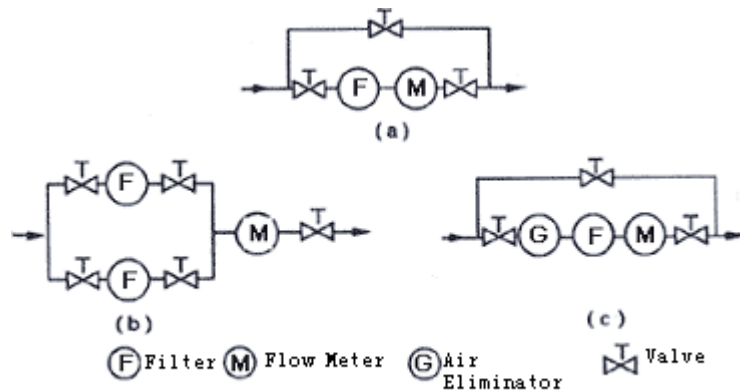

Fig. 4
- a) The Flow Meter pipeline arrangement is as shown in Fig.4
For operation and maintenance reason, to ensure flow in the pipeline will not be interrupted during maintenance, by-pass pipe is needed, as shown on Fig.4 (a); if there is much impurity in the fluid, the filter needs frequent cleaning; in that case, to minimize any affection to the flow meter working, two filters being installed in parallel for alternative operation and cleaning is usually required; such pipeline arrangement refers to Fig.4 b); Fig.4 c) shows Air Eliminator being installed; If flow meter no interruption measurement is required or the maximum flow rate is higher in pipeline, two or more flow meters to be installed in parallel are applicable; each flow meter can be arranged as shown on Fig.4, even with a shared by-pass pipeline;